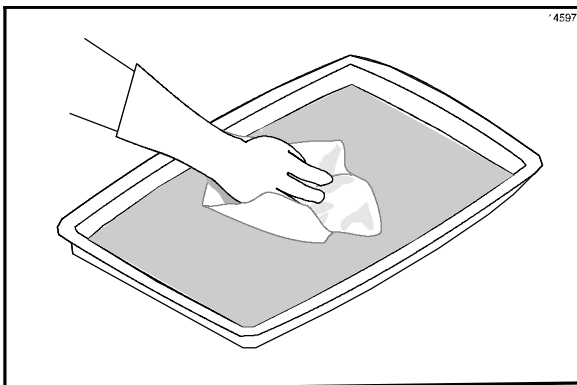

Figure 41
10. Dip a clean, sanitizer-soaked grill cloth into the grill cleaner. Do not saturate the cloth. (See Figure 41.)